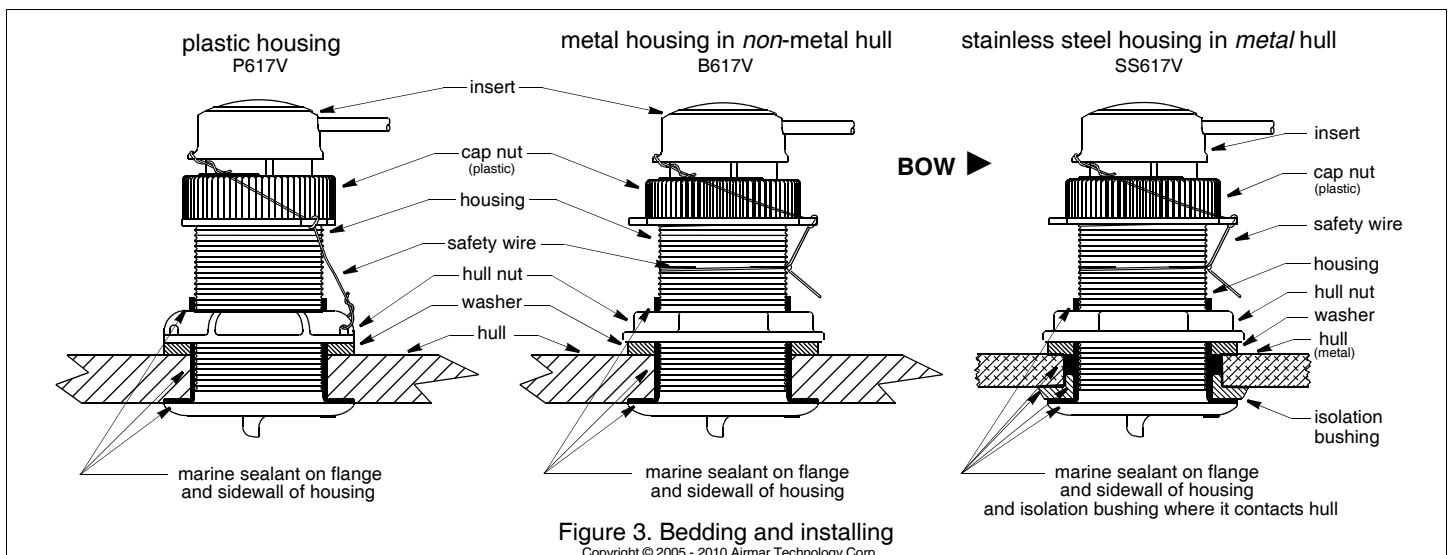

Figure 3. Bedding and installing
Apply a 2mm (1/16") thick layer of marine sealant around the flange of the housing that contacts the hull and up the sidewall of the housing (Figure 3). *The sealant must extend 6mm (1/4") higher than the combined thickness of the hull, the washer, and the hull nut.* This will ensure there is sealant in the threads to seal the hull and to hold the hull nut securely in place.
1. From outside the hull, push the housing into the mounting hole using a twisting motion to squeeze out excess sealant (Figure 3).
- Remove the insert from the housing by removing the safety wire and unscrewing the cap nut (Figure 3). This will jack up the insert. Remove the insert with a slow pulling motion. Replace it by sliding the blanking plug into the housing.